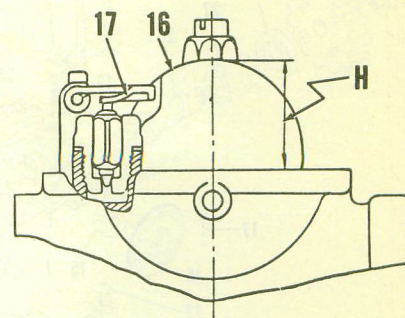
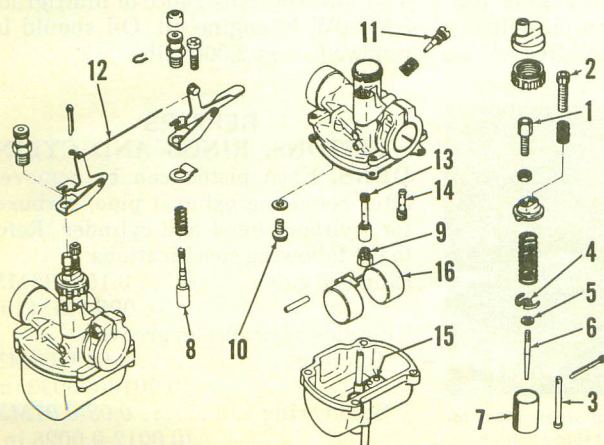

Fig. Y8-2—Float level (H) is adjusted by bending tang (17).
Fig. Y8-1—Exploded view of Mikuni VM carburetor. Starting valves for both carburetors are connected with rod (12).
CARBURETORS. Two Mikuni VM carburetors are used. Idle speed should be set at approximately 1,200 rpm by turning adjusters (2—Fig. Y8-1). Make
Float level (H—Fig. Y8-2) should be 25.4MM (1 in.) and is adjusted by bending tang (17) on float. Refer to Fig. Y8-1 and the following standard specifications:
cable guides (1—Fig. Y8-1) are correctly set. To adjust the throttle cable guides, turn the idle speed adjusters (2) all the way down, then synchronize cable guides (1) so that both throttle slides (7), begin to move at exactly the same time when the hand grip is turned. The throttle cables should have approximately 1/16-inch free play after they are synchronized. Adjust the idle speed to 1,100-1,300 rpm by turning both idle adjusters (2). Make certain that both throttle slides stop at exactly the same time. Turn the throttle hand grip just enough to take up free play from the throttle cables (without changing idle speed) and check the oil pump setting mark and guide pin as shown in Fig. Y8-5. If the mark (1) is not exactly aligned with guide pin (2); loosen the lock nut and turn the pump cable adjuster (3) as required to align.